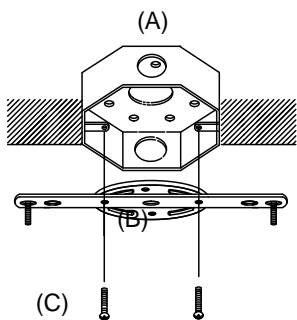

Fig. 1
Take off screws from outlet box (A). Secure the mounting plate (B) onto the box with screws (C) taken off (Fig. 1).